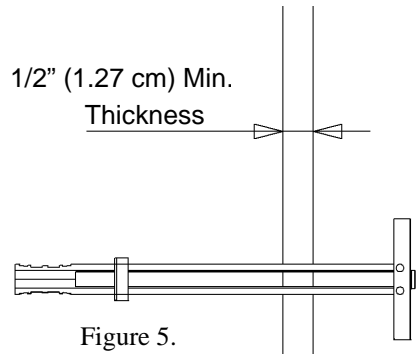

Figure 5.
3. With plastic anchor (100) inserted in hole, slide finger grip together to turn end inside hole perpendicular to wall (see Figure 5).